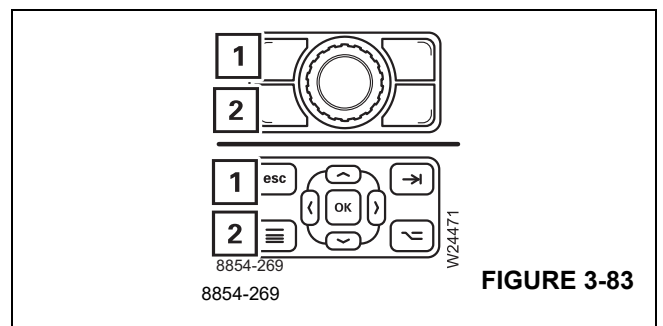

FIGURE 3-83
You can cancel the entry at any time using the (1), (Figure 3-83) or (2) buttons.